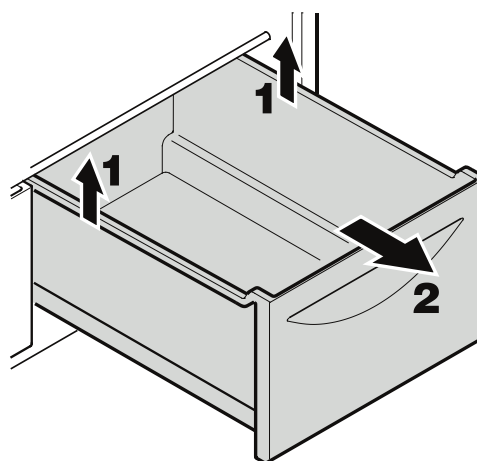

Figure 19
Pull the drawer straight out, grip at the back and lift out - *Figure 19.*
- Remove vegetable drawers as shown in *Figure 19*.